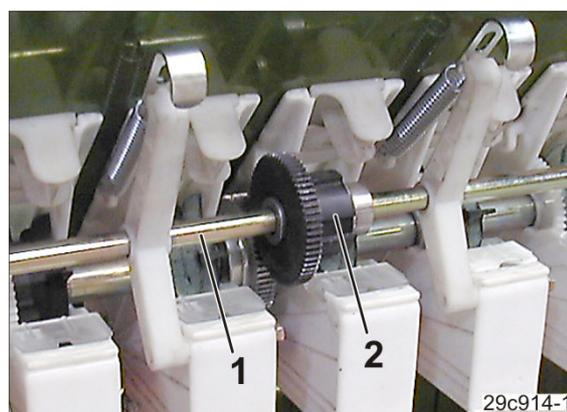

Fig. 76
The lay shaft (Fig. 76/1) is driven by the seeding shaft via a coupling (Fig. 76/2).
The lay shaft coupling (Fig. 76/2) is electrically actuated, see section "Lay shaft coupling, electrically actuated", page 79.
- when the coupling (Fig. 76/2) is actuated
- the lay shaft (Fig. 76/1), which drives the tramline seed metering wheels, is immobilised